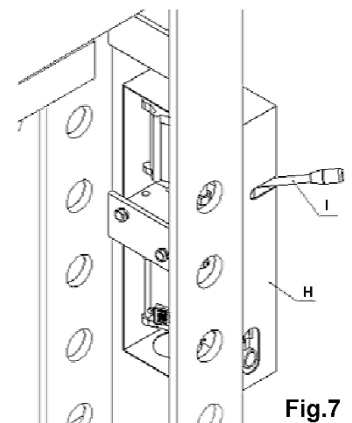

Fig.7
- 11.2.5 Fix the selector lever (I) on the selector valve on the pump (H). (refer to fig. 7)